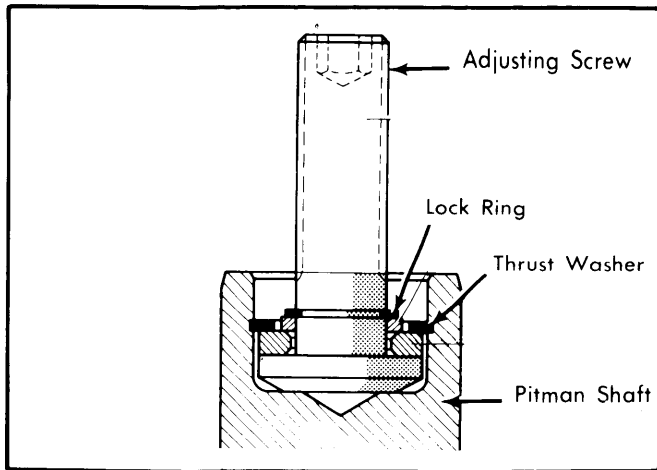

Fig. 5 Sectional View of Adjusting Screw
2) With steering in center position, turn adjusting screw clockwise. This forces pitman shaft, with housing, from steering gear case. Remove pitman shaft with cover. Remove "O" rings from cover. Remove lock ring and seal ring. Remove lock ring from pitman shaft and remove adjusting screw with thrust washers. (See Fig. 5).